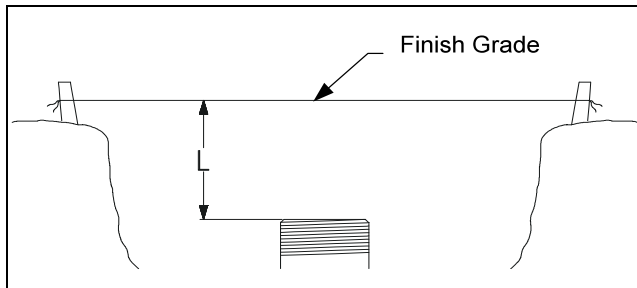

Figure 1
1. Mark off finish grade. (See Figure 1.)
Note: Add an extra 3-1/4" when using an OPW FSA-400 Face Seal Adaptor, recommended for Composite Base. Add an extra 1 3/4" when using the FSA-400-S Face Seal Adaptor, recommended for Cast Iron Base. (See Figure 1.)